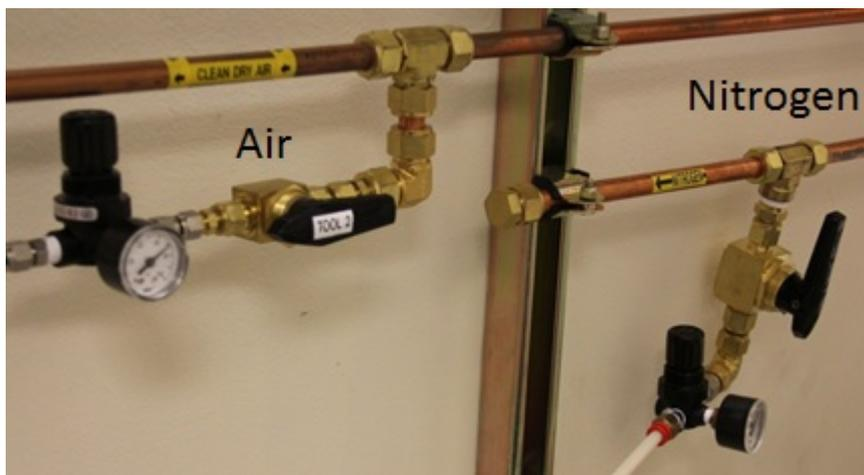

Figure 4: Rofin process Air and Nitrogen on/off valves.
2. (Figure 4) Turn on the gas valves at the rear of the laser (Air, Nitrogen).
14. (Figure 4) Turn off the process gasses Air and Nitrogen.